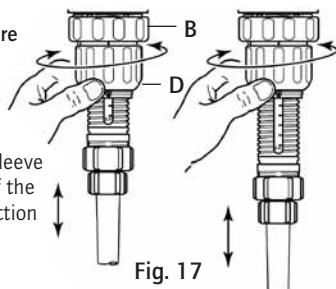

Fig. 17
- Unscrew the blocking ring (Fig. 17-B).
- Screw or unscrew the adjusting sleeve (Fig. 17-D) so as to bring the top of the sleeve into line with the desired injection rate.
- Tighten the blocking ring (Fig. 17-B).